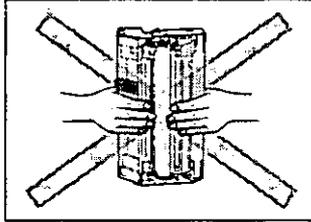

Fig. 2
- Do not touch the shaded area. (Fig. 2)